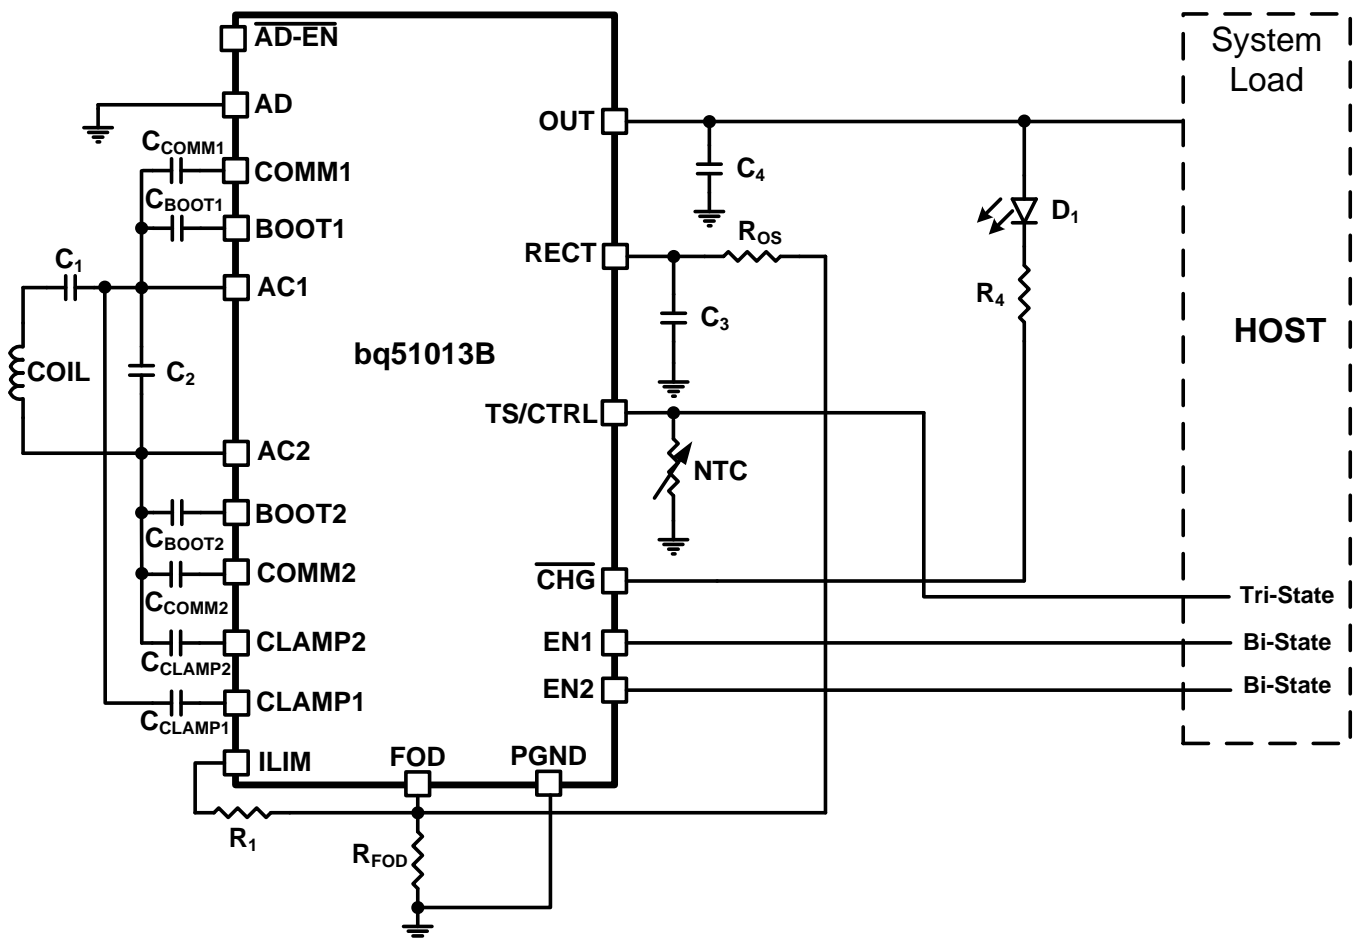
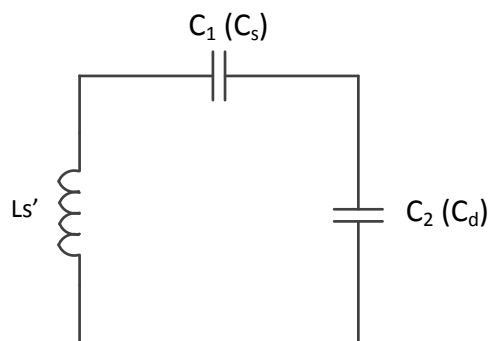

Figure 38. bq51013B Used as a Wireless Power Receiver and Power Supply for System Loads
Figure 39. Dual Resonant Circuit With the Receiver Coil
8.2.1.2.1 Using The bq51013b as a Wireless Power Supply: (See Figure 38)
When the system shown in Figure 38 is placed on the charging pad, the receiver coil is inductively coupled to the magnetic flux generated by the coil in the charging pad which consequently induces a voltage in the receiver coil. The internal synchronous rectifier feeds this voltage to the RECT pin which has the filter capacitor C3.
Shown in Figure 38, the capacitors C1 (series) and C2 (parallel) make up the dual resonant circuit with the receiver coil. These two capacitors must be sized correctly per the WPC v1.2 specification. Figure 39 illustrates the equivalent circuit of the dual resonant circuit: